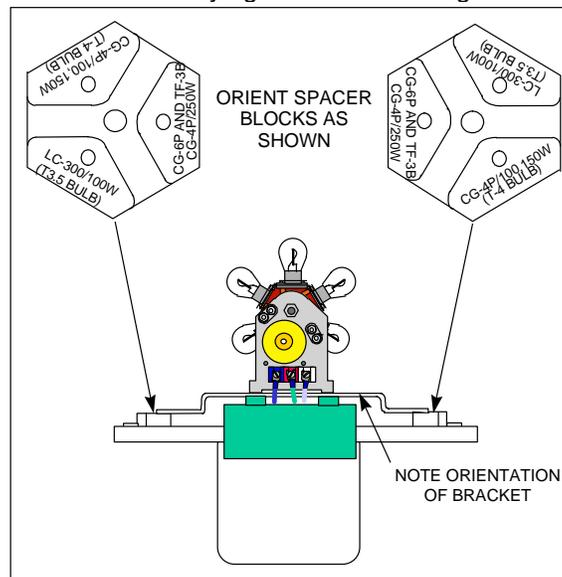

Figure 3-28
bracket with lampchanger). The wires from the WK-681 wiring kit must pass **under** the bracket, shown in Figure 3-28.
- g. Rotate the spacer blocks in the drum of the lantern to the correct lampchanger/lamp combination, as shown in Figure 3-28. Loosen the mounting screw and rotate the block until the selected surface aligns with the threaded hole in the back wall. Gently tighten the mounting screw.